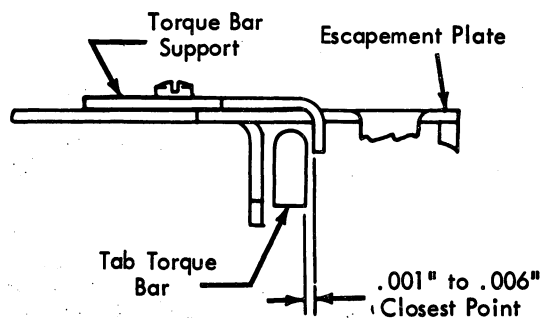

FIGURE 242.5. Tab Torque Bar Support
9. Tab Torque Bar Support (Fig. 242.5) - With the tab torque bar at rest, position the torque bar support (relative to the escapement plate) to clear the torque bar by .001" to .006"